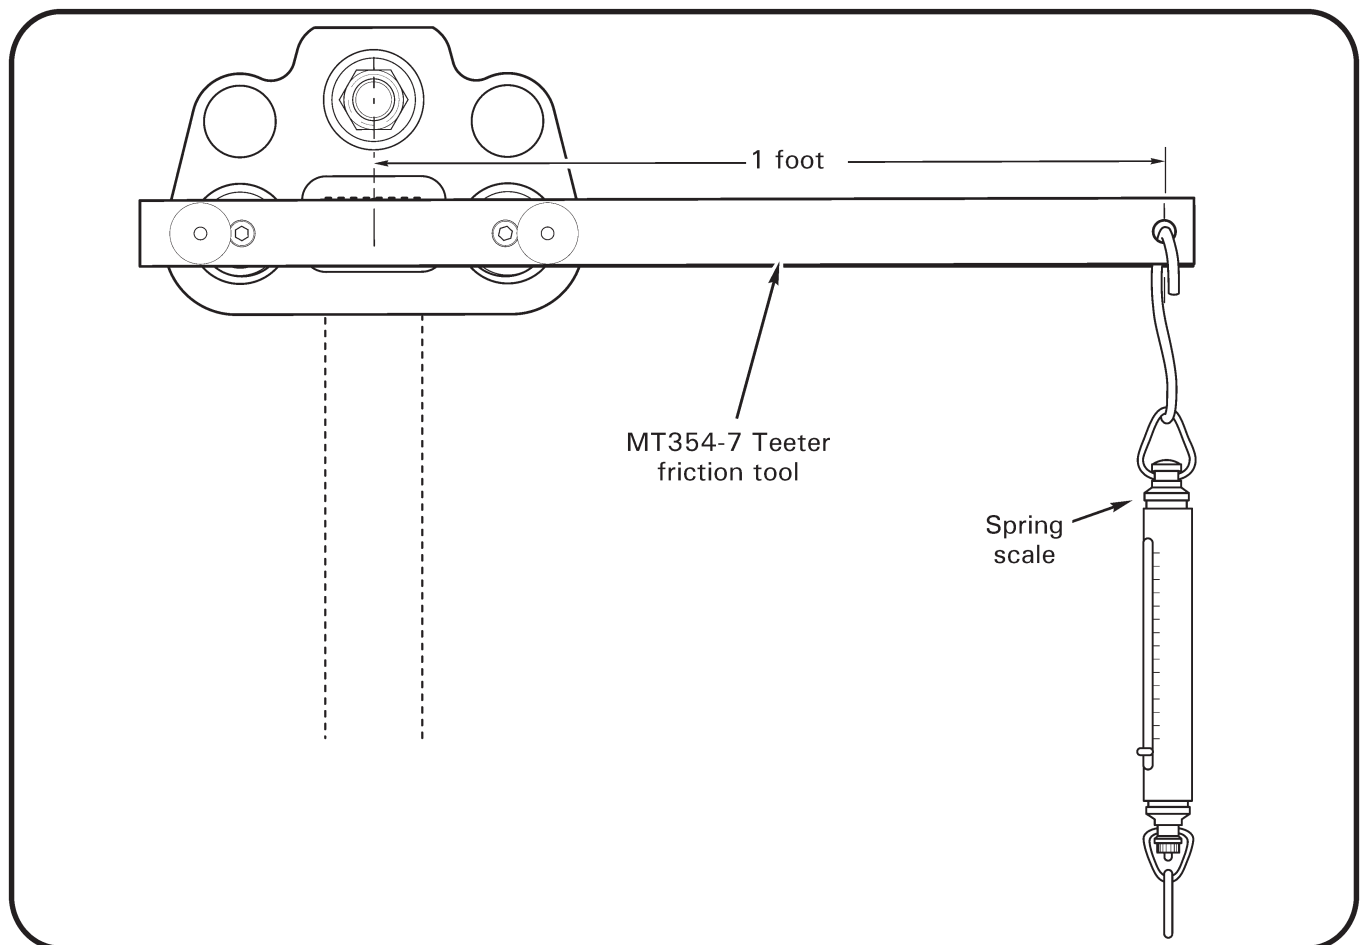

FIGURE 26-9 MEASURING TEETER HINGE FRICTION
3. If same hub will be installed, measure teeter hinge friction per Figure 26-9 and record value.
3. Refer to Figure 26-9. While torquing teeter hinge bolt per § 23-33, check teeter hinge friction frequently. To check friction, install MT354 teeter friction tool into coning hinge bearings on one side of main rotor hub and measure moving force (not breakaway force) required to teeter main rotor hub with a spring scale. Teeter friction must be less than 15 ft-lb.